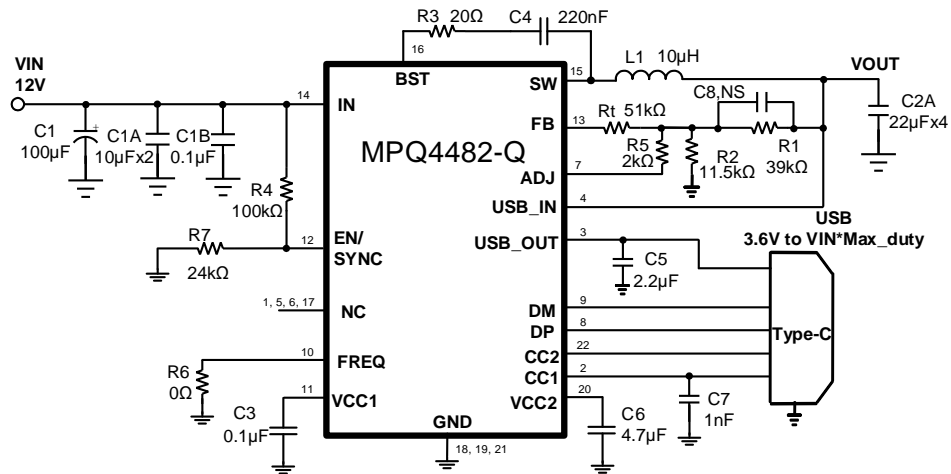

Figure 12: 12Vin, USB Type-C 5V@3A DFP and QC3.0 mode
8) The recommended layout is based on the typical application circuit (see Figure 12). Some of the resistor or capacitor names may be different.